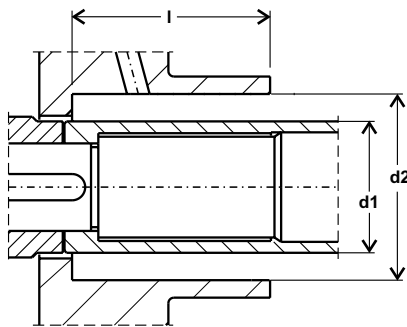

Fig. no.14 : Stuffing box compartment
1. Check the shaft (210) with its shaft protection sleeve (524) (as applicable) for eccentricity, between centres, Maximum allowable eccentricity is 0.05mm.
2. Fasten the shaft (210) to the bench vice using soft sheets between the vice clamp jaws to avoid damage. Refer fig no.14.